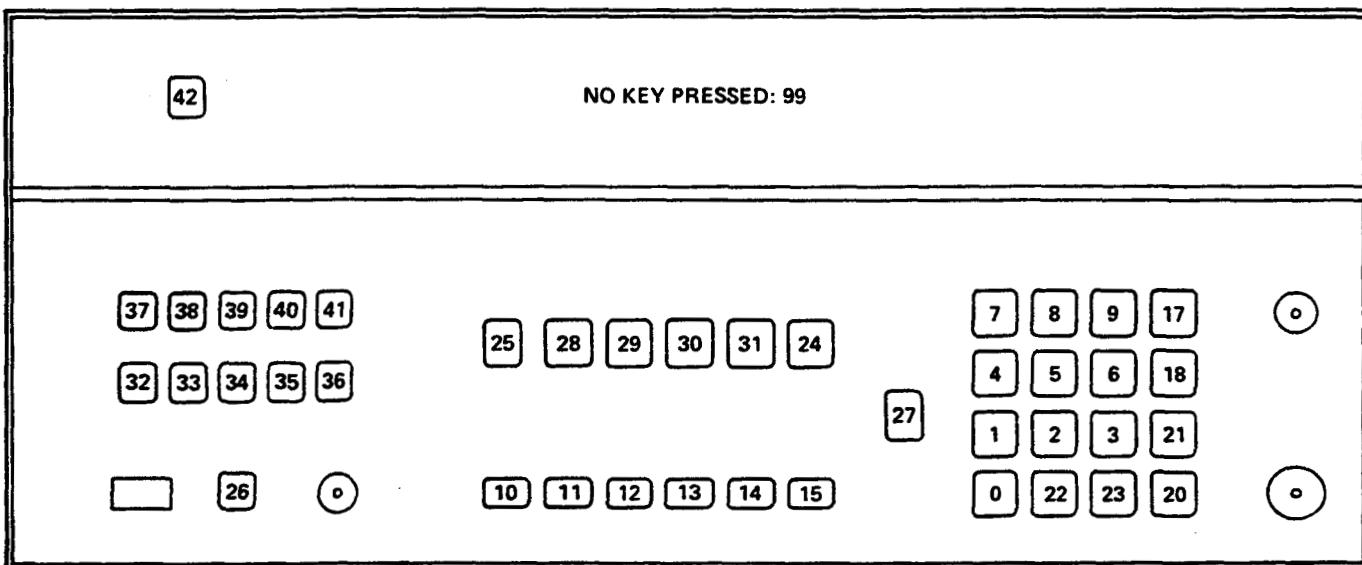

Figure 8-6. Key Codes for Key Scan (Service Special Function 60.0)
60.0 Key Scan. The keyboard is scanned and a key code is displayed and output to the HP-IB. The key codes are shown in Figure 8-6.